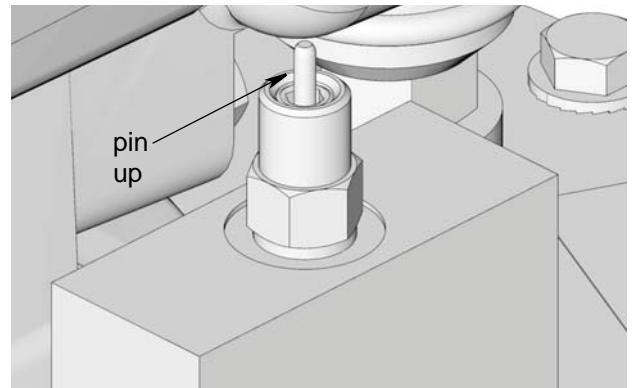

FIG. 3
3. Remove yellow Dust Cover (T) from Fill Coupler (M).
4. Connect Supply Hose (J) between the Remote Filling Stations Pump (H) and Fill Coupler (M) port marked with an "I".
5. Start Remote Filling Station Pump (H).
6. When Reservoir (E) is filled:
- the Remote Filling Station Pump (H) stalls (dead-heads),
- the Auto-Fill Shut Off pin pops up as shown in FIG. 3,